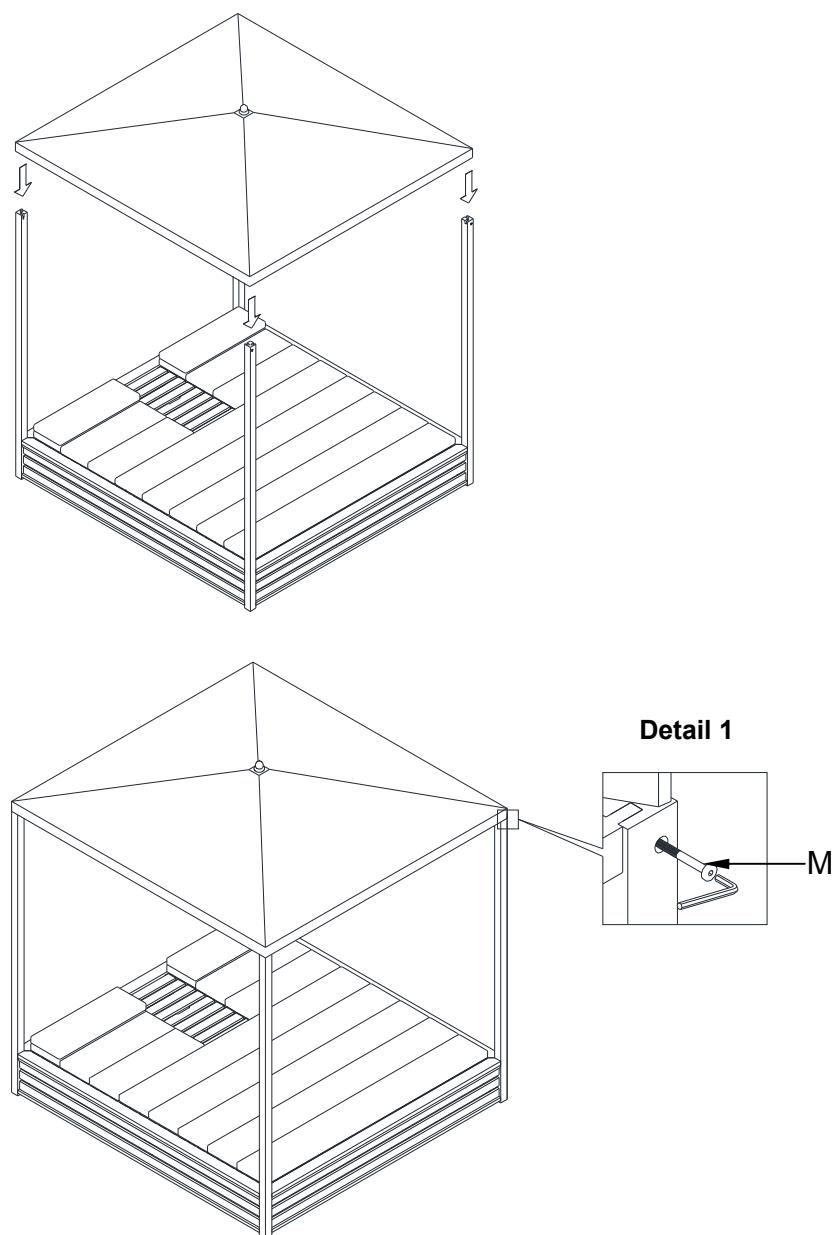

Fig.11
11. Assemble the top frame with canopy to the post. (See **Fig. 11**). Insert 4 pcs Long Allen Bolts (M) into the holes on the corners, and tighten with the supplied Allen Key. (See **Fig 11**) Detail 1.